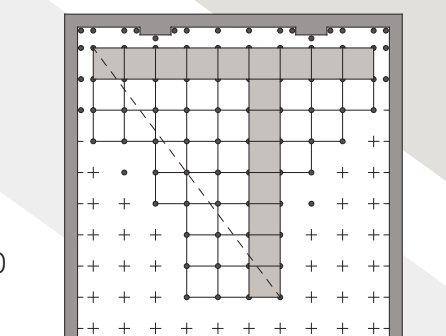

Figure 3
- 4 At this point the first panels can be laid in sufficient quantity to form a T, starting from the first inner row on the two orthogonal axes (fig. 3):
- 5 A squaring check is then performed (fig. 3):
- 6 We continue with the laying of the panels in progression in the two opposite directions to the initial T (fig.3).